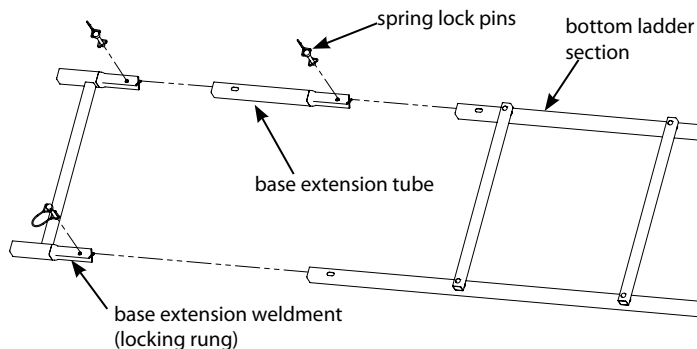

Figure 5
5. Insert one side of the base extension weldment (410044) into the base extension rail tube (410040) and secure with (1) spring lock pin. Handle of spring lock pin must be put to the outside of long rail. **SEE FIGURE 5.**
6. Take the factory assembled ladder sections and unfold them to their full, deployed width. Insert the previously assembled base extension into (1) 3-step ladder section (410032) and secure with (2) spring lock pins. Handle of spring lock pins must be put to the outside of the ladder side rails. **SEE FIGURE 5.** This step now makes this the bottom ladder section.